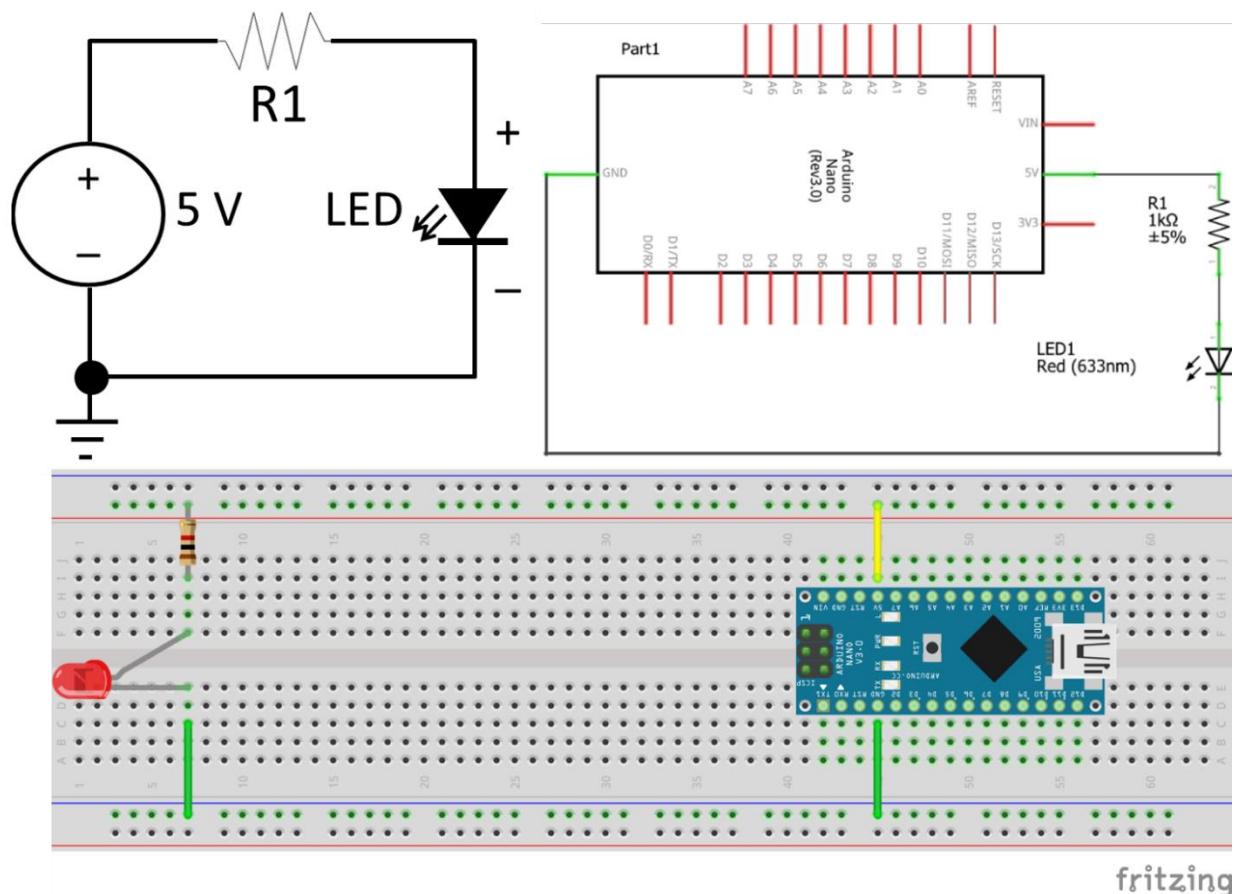

Figure 6: The LED circuit.
- Demonstrate your LED circuit (figure 6) to a TA to get credit for building
Now we will add an LED (light emitting diode) to the circuit. We will put it in series with the resistor. See figure 6. The resistor acts as a current limiter to protect the diode and Arduino from excessive current. We will learn more about this in the next lab.
14. Open the loop on your boring circuit and insert the LED in series with the circuit to close the loop (see figure 6).